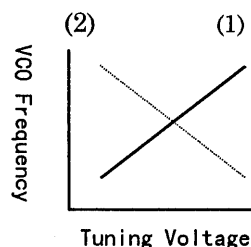

Fig.1
0	(1) Shown Fig.1
1	(2) Shown Fig.1